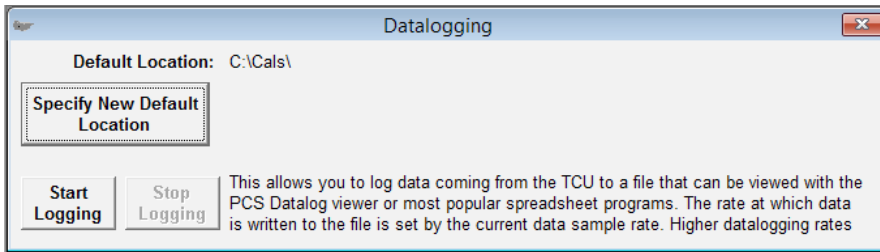

Figure 28: Choose File Name and Location/Start Logging
3. A window will appear with the option to “Start Logging” and several datalogging rates will be offered. Choose your datalogging rate and click on the “Start Log” button. When prompted, choose a file name and location for your datalog. *Reference Figure 28.* As with calibration files you may want to choose a descriptive name including the time, date, and/or application of your datalog. Once you have chosen a name and location, click save or press enter.